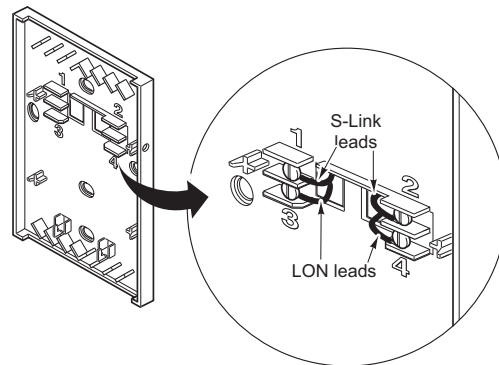

Figure-7 S-Link and LON Connections.
Communications wiring includes a connection between the controller and an TAC I/A Series MicroNet Sensor via the S-Link and an optional connection between the sensor and the TAC MicroNet LONWORKS network (LON). Figure-7 shows S-Link and LON wiring terminations.
2. Connect wires to screw terminals 1 and 2 (Figure-7). The S-Link terminals are polarity insensitive.
2. Connect wires to screw terminals 3 and 4 (Figure-7). The LON terminals are polarity insensitive.